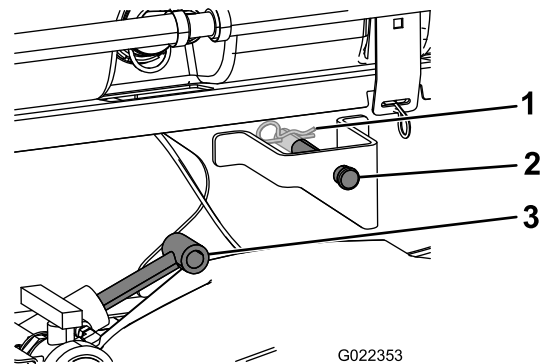

Figure 12
- Extend the lift cylinders to the brackets on the tank skid, and align the cylinder fittings with the holes in the tank skid brackets (Figure 12).